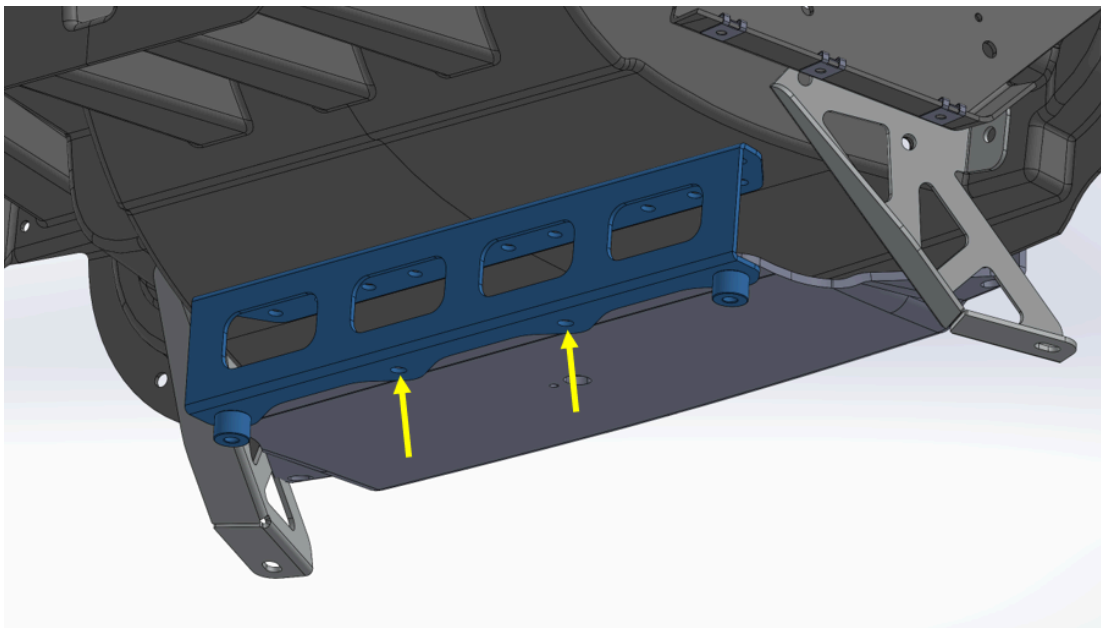

Fig 6: Fix the reinforcement part (9) to the crashbox with two screws in the center.
6. Mount the center crashbox reinforcement (9) as shown in Fig 6. Glue in the reinforcement (9) part with bodywork adhesive (35). The adhesive surface must be pre-treated with primer (36). Fix the reinforcement aluminum part to the crashbox by using 2 pcs M6x20 lens head screws (24) with 2 pcs M6 washers (32).